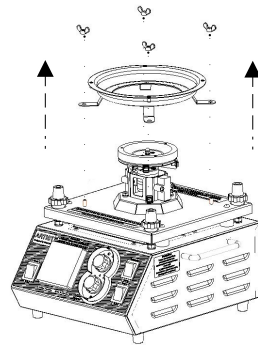

Figure 9
6. Detach lower part of the stator by removing four wing nuts, see Fig.9. Rinse this part with water and wipe dry immediately.